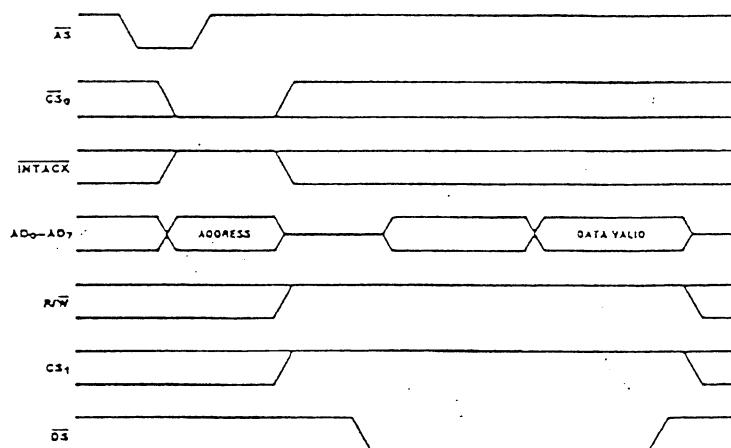

Figure 15. Read Cycle Timing
**Read Cycle Timing.** Figure 15 illustrates Read cycle timing. The address on  $AD_0-AD_7$  and the state of  $\overline{CS}_0$  and  $\overline{INTACK}$  are latched by the rising edge of  $AS$ .  $R/W$  must be High to indicate a Read cycle.  $CS_1$  must also be High for the Read cycle to occur. The data bus drivers in the SCC are then enabled while  $\overline{DS}$  is Low.